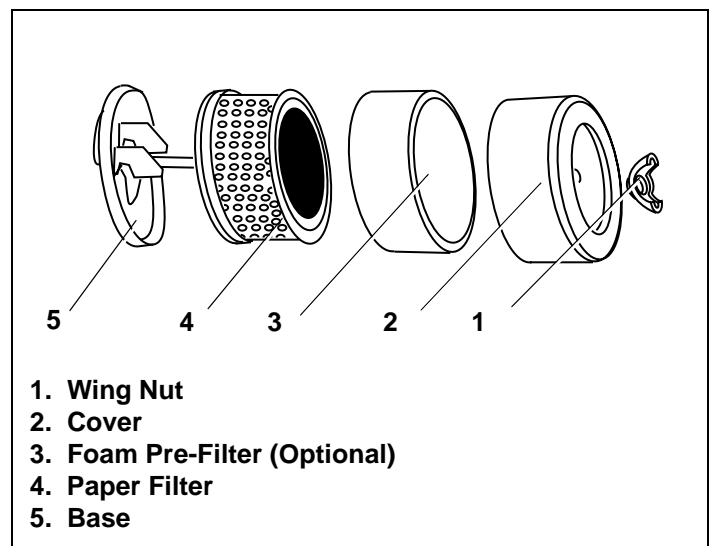

Figure 43. Type "C" Air Cleaner Assembly
1. Remove wing nut. See Figure 43.